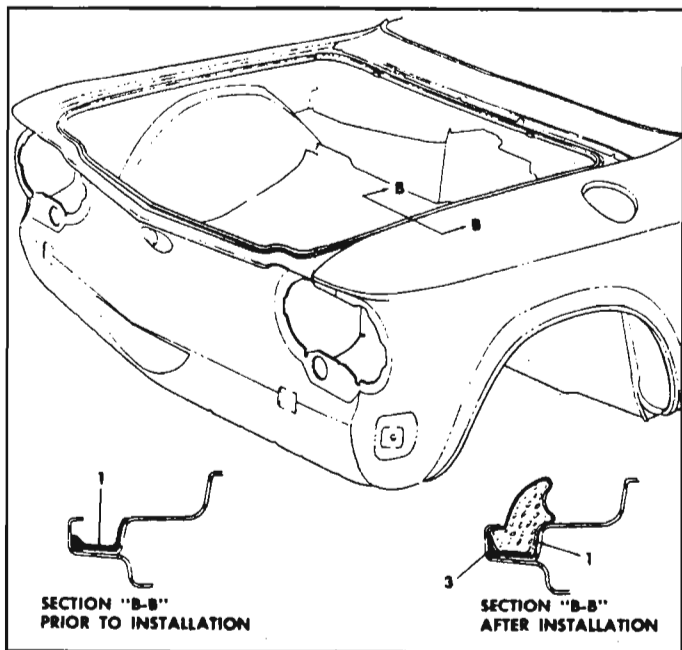

Fig. 10-20—Front Compartment Lid Gutter Weatherstrip
2. Brush an approved weatherstrip cement along base and outboard side of gutter as indicated by "1" (fig. 10-20) around entire perimeter of gutter.
NOTE: Apply a sufficient amount of weatherstrip cement along lower inboard corner of gutter so that after installation of weatherstrip, cement will spread and completely fill area indicated by "3" (fig. 10-20).